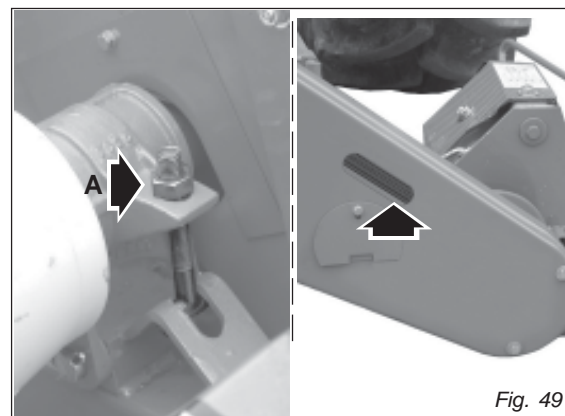

Fig. 49
- Adjust belt tension periodically by adjusting nut (A, Fig. 49). Check tension via the viewing panel on the belt guard. Belt slack must not exceed 1 inch. It is essential to close the inspection hatch with the relative lid after the belts have been examined.